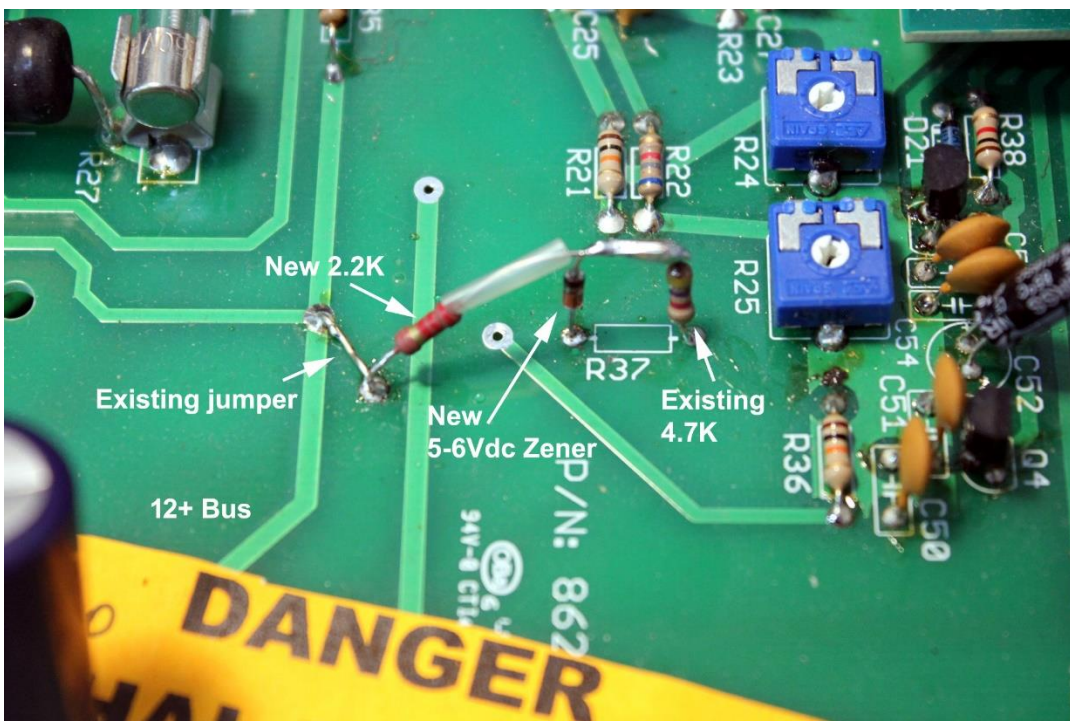

Figure 4 Zener and resistor mod
- 3.) Referring to figure 4, the new Zener connects banded end up to the end of the 4.7k lifted in step 1. This makes the threshold voltage on the relay control jack more reasonable at normal logic levels.